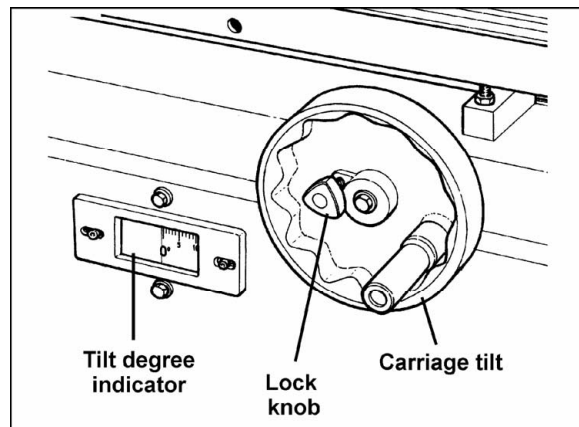

Figure 23
2. The blade is tilted by using handwheel on front of machine (Figure 23). The blade can be tilted at any angle between 90 and 45 degrees. After setting, lock the blade in this position with the lock knob. The angle can be read on the indicator.